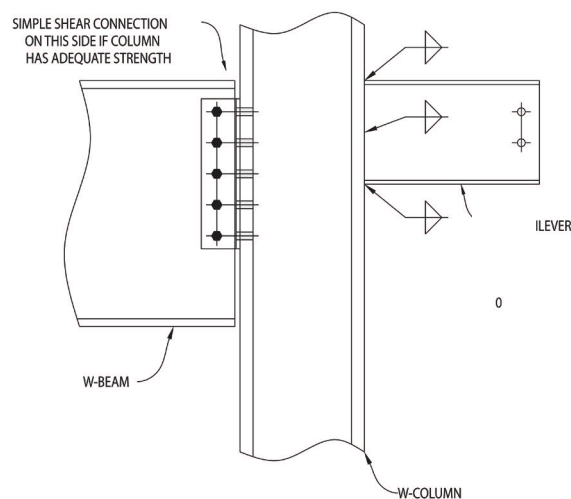

Figure 3. Shop-Welded Short Cantilever
23. Shop-weld short cantilevers to the column as shown in Figure 3. This will make the erection much safer.